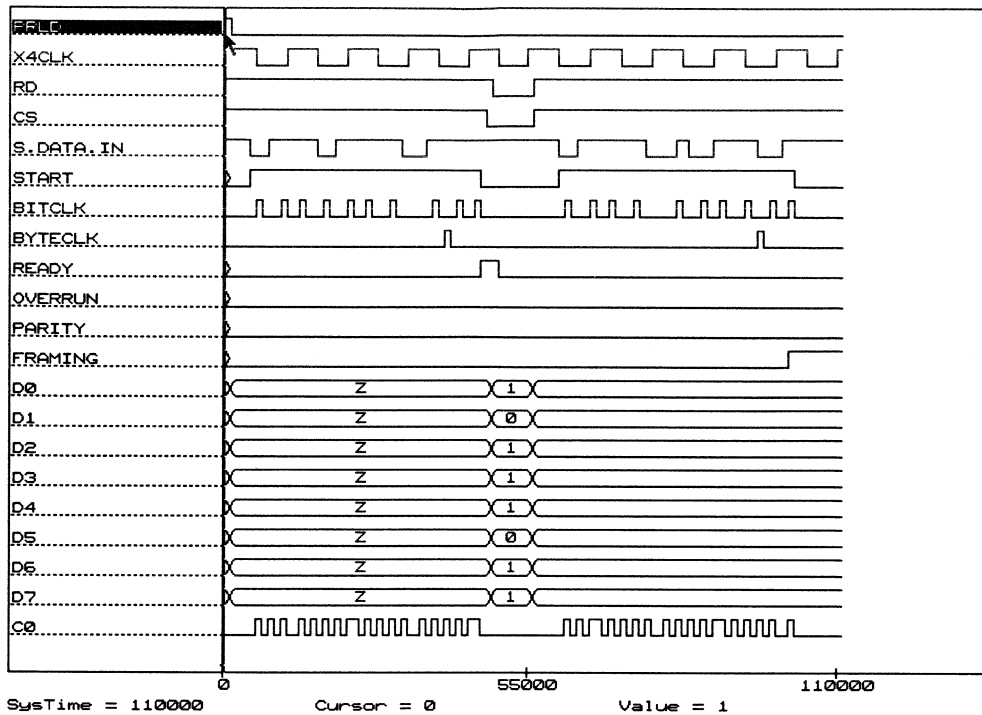

Figure 16-22 Addition of the C0 Signal
- The simulation waveforms appear as shown in Figure 16-22.